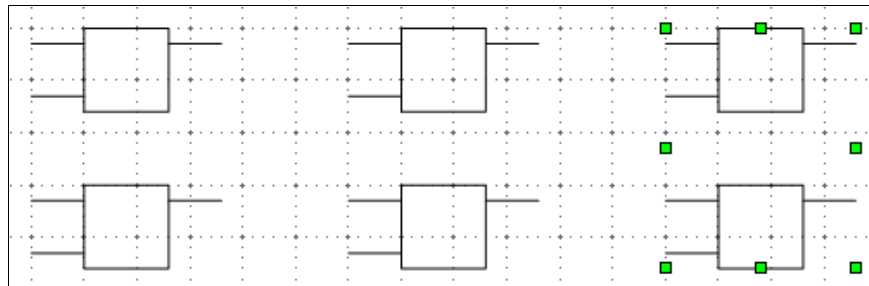

Figure 5: The blocks after duplication
Using the same method, copy both blocks twice more to the right. Select both blocks, open the Duplicate dialog, and use placement values of 30 mm (X) and 0 mm (Y). Your drawing should look similar to Figure 5.